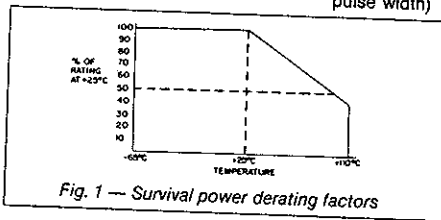

Fig. 1 — Survival power derating factors
Survival Power (from -65°C to +25°C; see power derating curve, figure 1, for higher temperatures) 2W average, 10W peak (1 μsec max pulse width)
- (1) Units can be operated at higher input power levels with some increase in switching time when -30V power supply is used.
- (2) Into 50 ohm system.
- (3) Up to Survival Power limits shown in figure 1.